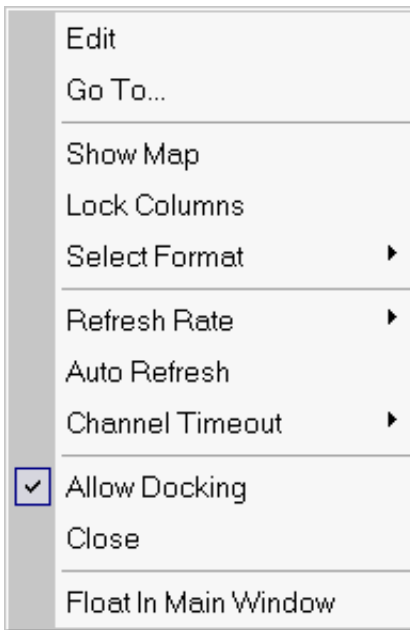

Figure 3-19. BTC Memory Window Right-Click Menu
2. Right-click in the **BTC Memory** window to display a menu of features, shown in Figure 3-19.
Double-clicking on a channel displays the corresponding memory in the **BTC Memory** window. When **Show Map** is disabled, you can choose a channel from a drop-down list selected from the **BTC Memory** window's right-click menu (Figure 3-19).